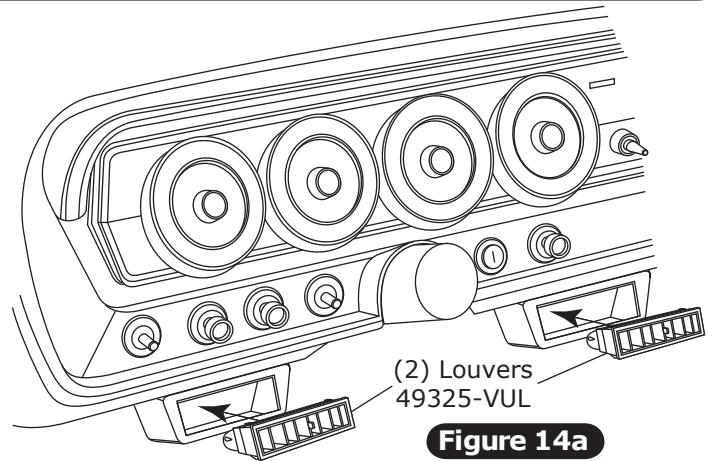

Figure 14a
3. Install louver into housing as shown in Figure 14a, below.